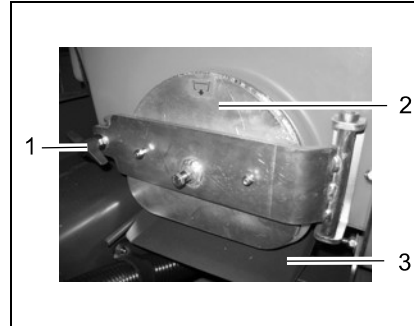

Fig. 30
4. Pull out the run-off plate (Fig. 30/3).
5. Release the flap lock: turn the wing nuts (Fig. 30/1) counterclockwise.
6. Open the cleaning flap (Fig. 30/2).